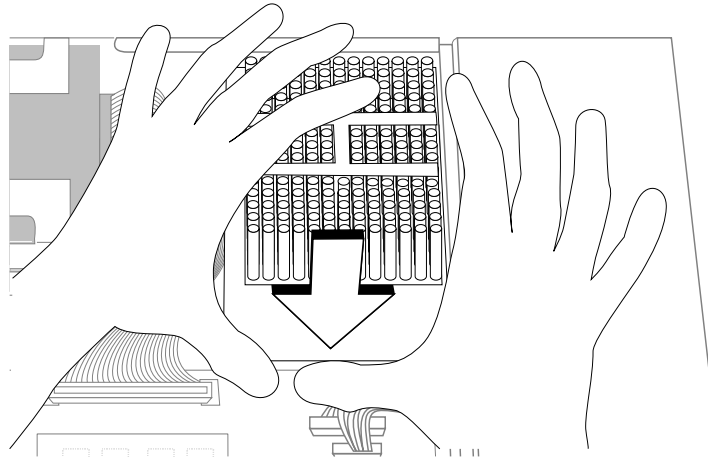

Figure 8-23 Installing the CPU Module
8. Install the replacement CPU module, as shown in Figure 8-23.